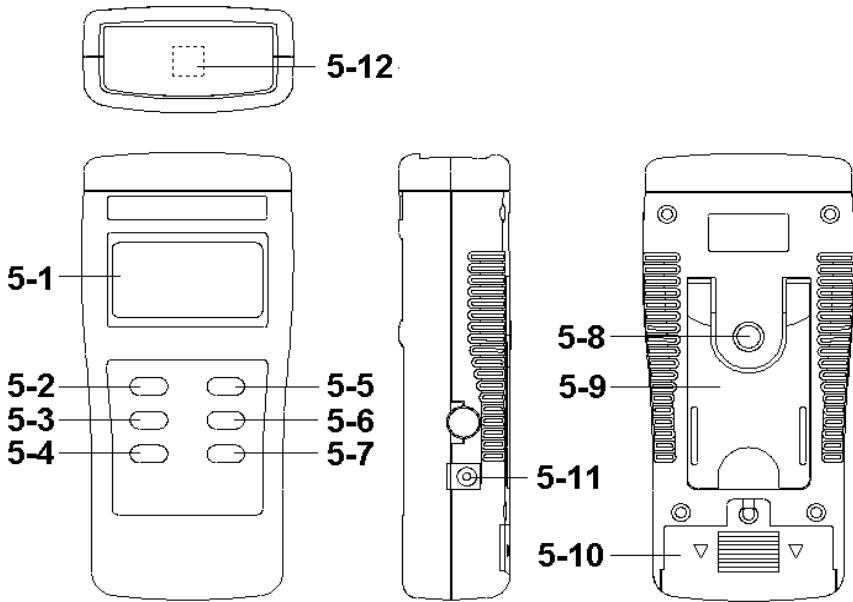

Fig. 1
(5-2, Fig. 1) once.
(5-5, Fig. 1)
(5-6, Fig. 1)
- 2) With the tester in hand, move slowly towards to the object under measurement until it is physically touched. The upper Display (5-1, Fig. 1) will present the EMF measurement value.
- * *EMF Sensor Position is in the area of " 5-13 , Fig. 1 " .*
During the measurement, press the " Hold Button " (5-4, Fig. 1) once will hold the measured value & the LCD will display a " HOLD " symbol.
* The data record function records the maximum and minimum readings. Press the " REC Button " (5-3, Fig. 1) once to start the Data Record function and there will be a " REC " symbol on the display.
a) Press the " REC Button " (5-3, Fig. 1) once, the " REC MAX " symbol along with the maximum value will appear on the display.
If intend to delete the maximum value, just press the " Hold button " (5-4, Fig. 1) once, the display will show the " REC " symbol only & execute the memory function continuously.
b) Press the " REC button " (5-3, Fig. 1) again, the " REC. MIN. " symbol along with the minimum value will appear on the display.
If intend to delete the minimum value, just press the " Hold button " (5-4, Fig. 1) once, then the display will show the " REC " symbol only & execute the memory function continuously.
During the measurement, the LCD backlight will On. If press the " Backlight Button " (5-7, Fig. 1) once, the LCD backlight will be switched to Off.
To de-activate this feature, Select the memory record function during measurement by pressing the " REC Button " (5-3, Fig. 1).